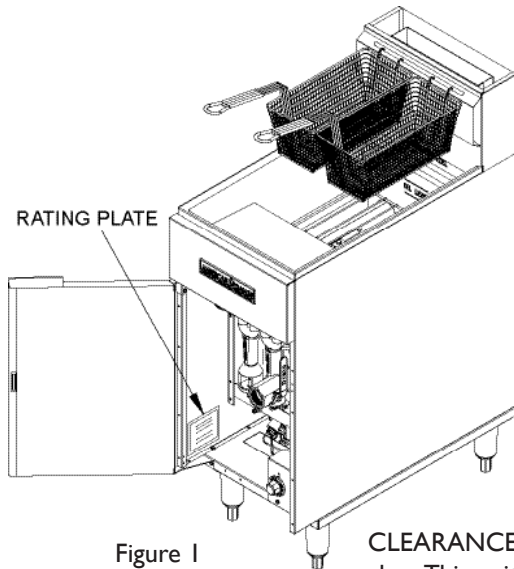

Figure 1
**RATING PLATE** - The location of the rating plate is shown in Figure 1. The information on the rating plate defines the model, serial number, gas type (natural or liquid propane), operating pressures and burner BTU ratings. Keep this information for future reference. It is essential for proper identification of the unit when requesting additional information or factory support.